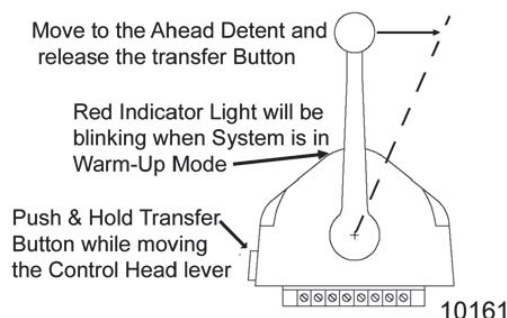

Figure 2-9: Control Head Warm-Up Mode
- A At the Station-in-Command, ensure that the Control Head's lever is in the Neutral detent position (refer to Figure 2-9: Control Head Warm-Up Mode).